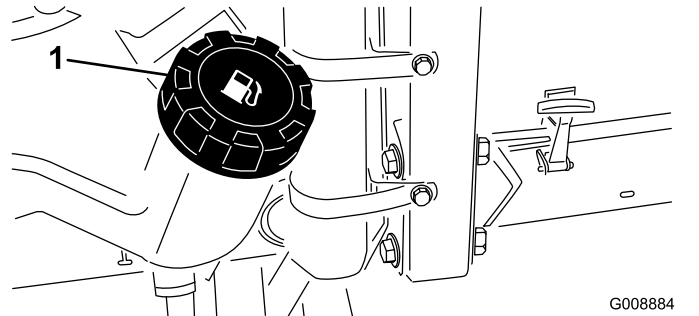

Figure 27
2. Clean the area around the fuel-tank cap (Figure 27).